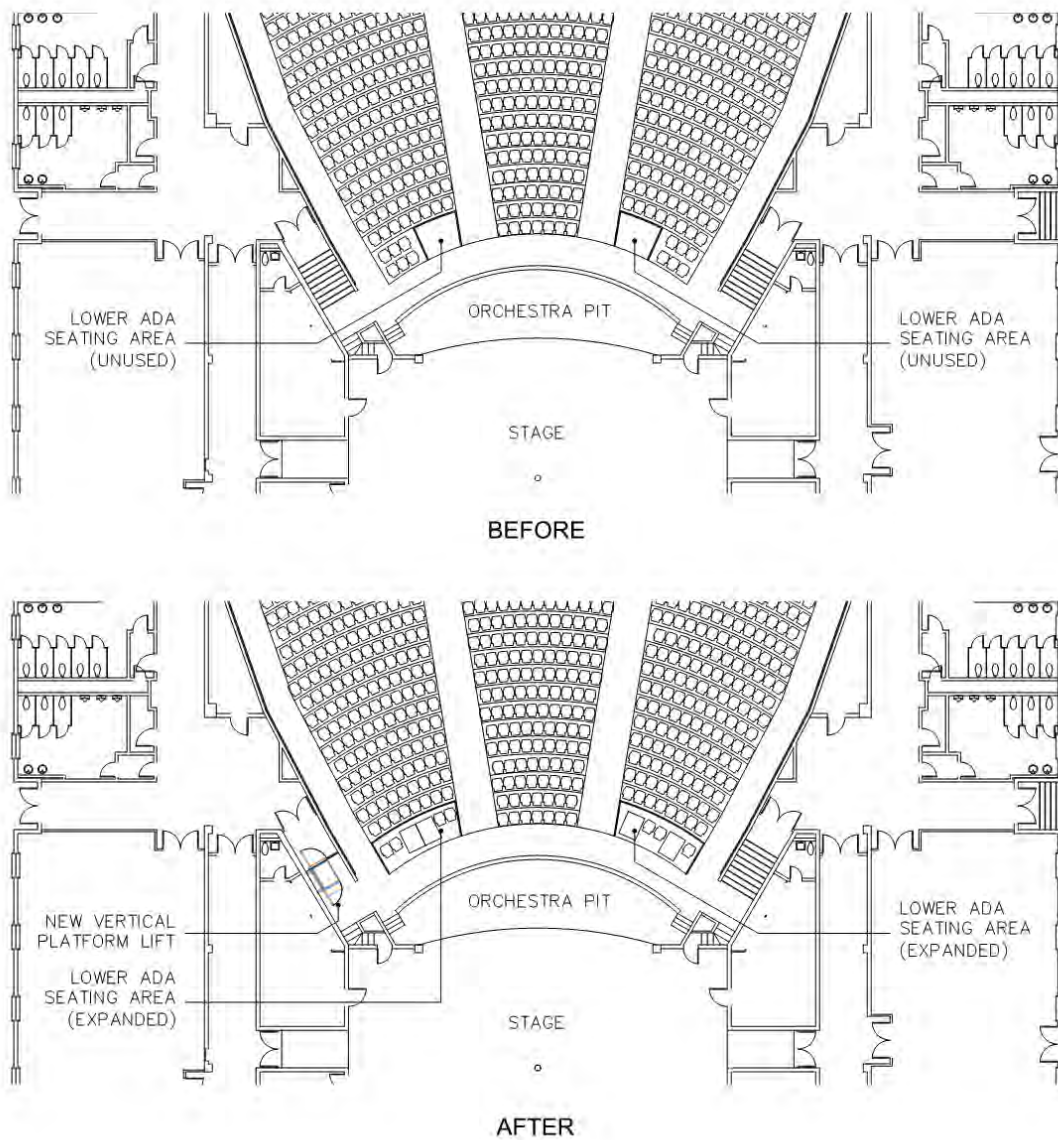

Figure 6 Lower ADA seating area
During a previous renovation, a portion of the existing sloping concrete floor was removed and a level concrete platform was poured to form the lower ADA seating area – one each on the east and west sides of the theater as shown in the photo below and on Figure 6.
- An vertical platform lift such as shown in Figure 6 will fit easily within the existing stairway footprint after removing the stairs flush with the top landing
- To meet the minimum requirements for three wheelchair space locations, it is recommended that at least one and preferably both of the existing lower ADA seating platforms be increased in size as shown in Figure 6